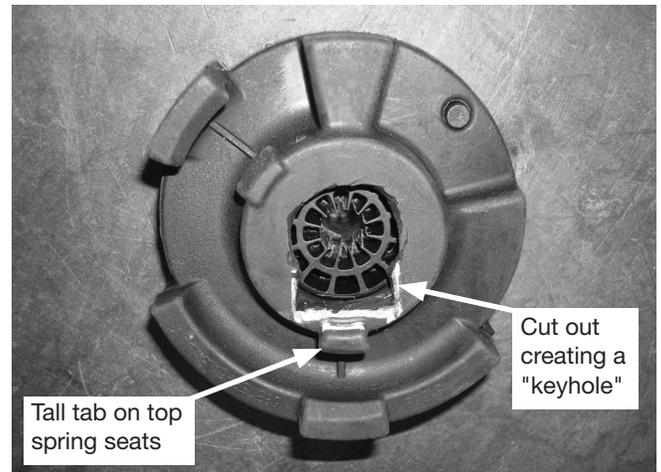

Fig. 11
11. Remove the lower spring seat from the drill press and on the tall tab side of the top, mark and remove the rubber cover material creating a "keyhole" (fig. 11).